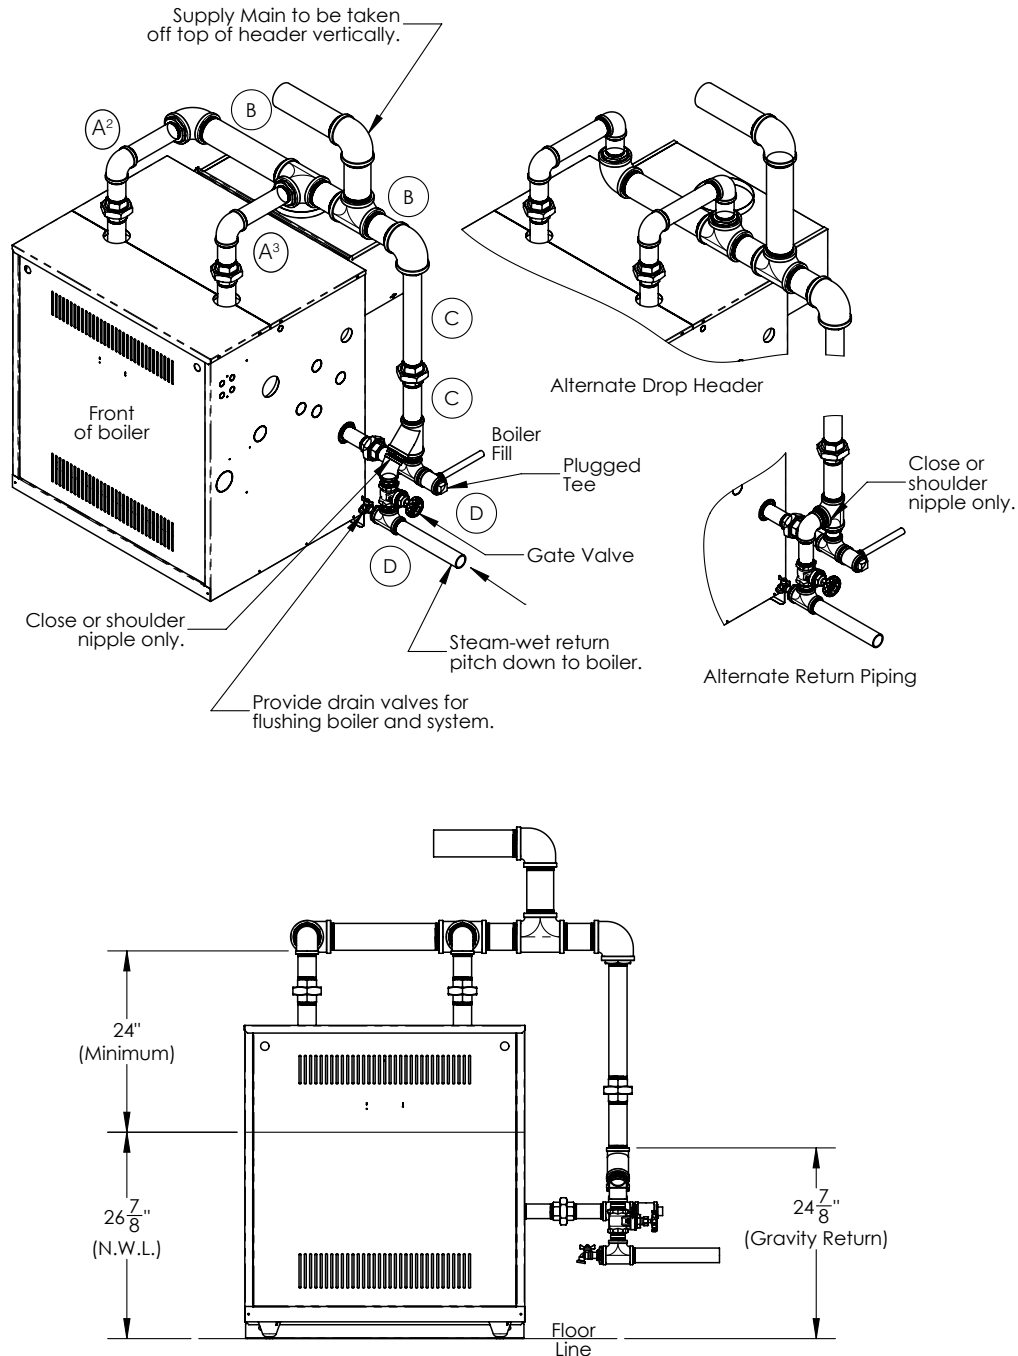

Figure 7-2: Near Boiler Piping of Hartford Loop
7. See Figure 7-2 for near boiler piping of Hartford Loop.